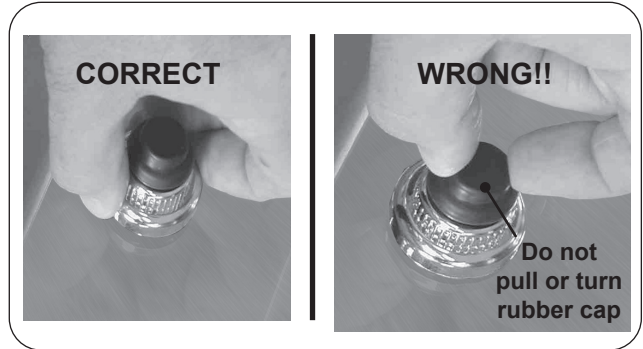

Fig. 35-1 Remove igniter cover
1. Remove the igniter cover by turning it counterclockwise (see Fig. 35-1).